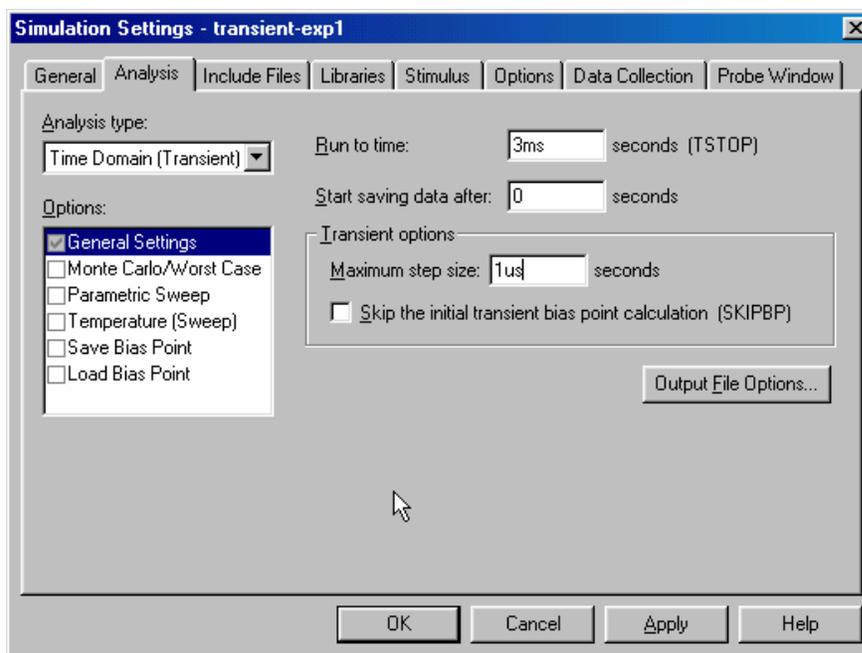

Figure C-9.
- Now we can set up the simulation. We will be doing *Transient Analysis* since that will produce a plot that is similar to what we see on the scope. The analysis options are found in the pull-down menu at the upper left of the *Simulation Settings* window shown in Figure C-9.